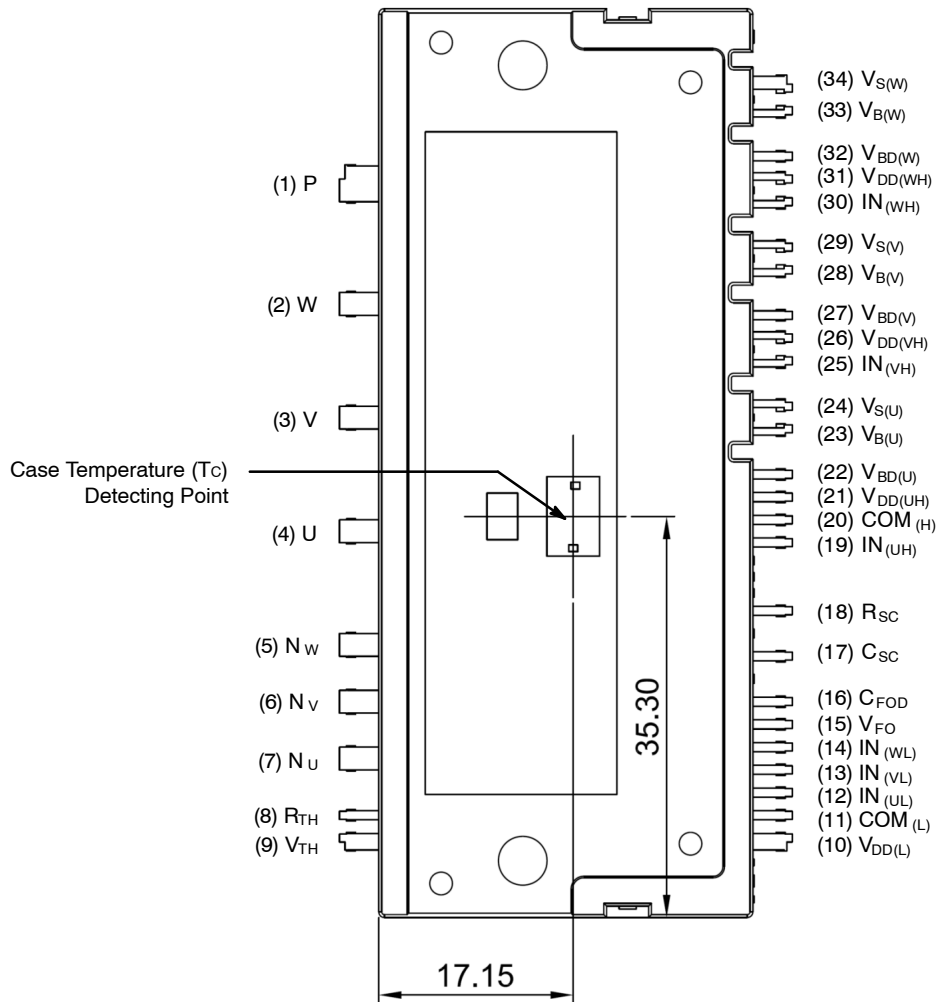

Figure 1. Pin Configuration – Top View
- 1200 V - 25 A IGBT inverter for three-phase DC / AC power conversion (Please refer to Figure 1)
- For the measurement point of case temperature (T_C), please refer to Figure 1. DBC discoloration and Picker Circle Printing allowed, please refer to application note AN-9190 (Impact of DBC Oxidation on SPM[®] Module Performance).